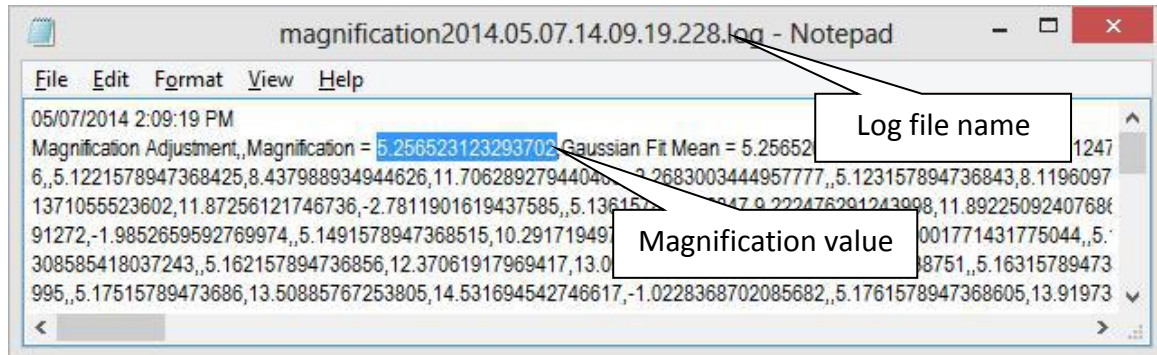

Figure 3
5. Once CDnA complete, go to path C:\Program Files\AXI System\v810\<REV>\log\calib\Magnification, check for latest low magnification log file. Sample as Figure 3. (# File name indicate as *magnificationYYYY.MM.DD.HH.MM.SS.XXX.log*)